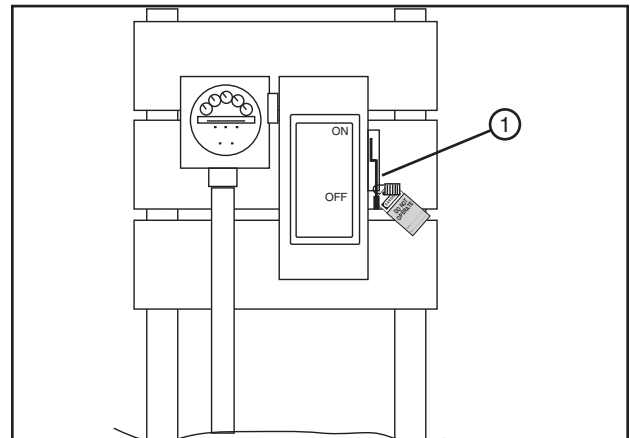

Figure 55-2 1. Public Power Service Disconnect
3. SHUT OFF and LOCK the public power service disconnect to the irrigation machine. FILL OUT the blue (OSHA safety color code) tag and attach to the disconnect after locking. See figure 55-2.